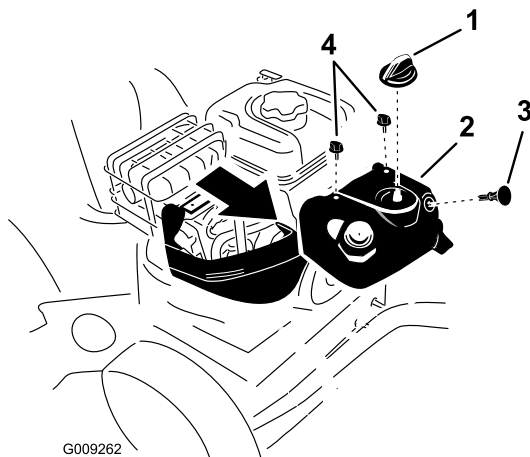

Figure 43
Note: To access the spark plug, you must first remove the upper snow hood (Figure 43).
1. Remove the choke knob and the ignition key (Figure 43).
2. Remove the 2 screws that secure the upper snow hood to the snowthrower (Figure 43).